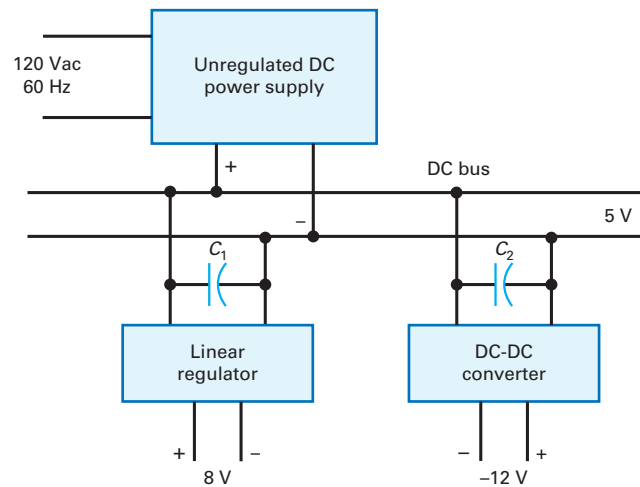

Figure 41-21 Circuit for prob. 41-4.
41.4 In Fig. 41-21, the circuits are operating properly except for a 500-kHz signal riding on the 8-V dc output. What may be the problem?